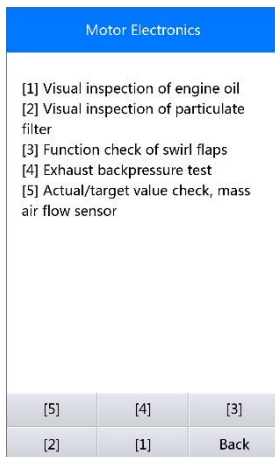

Figure 5-32 Sample Particle Filter Tests
- 1) Select [1] and **OK** button from the particle filter test menu (Figure 5-32).
- 1) Select **[2]** and **OK** button from the particle filter test menu (Figure 5-32).
- 1) Select **[3]** and **OK** button from the particle filter test menu (*Figure 5-32*).
- 1) Select **[4]** and **OK** button from the particle filter test menu (*Figure 5-32*).
1) Select **[5]** and **OK** button from the particle filter test menu (Figure 5-32).